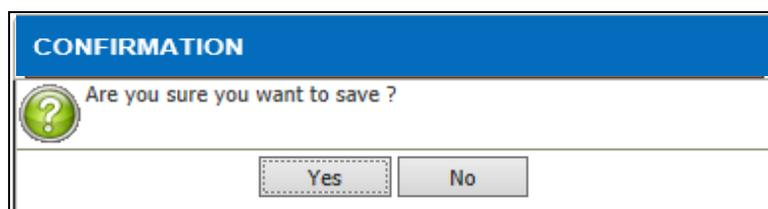

Figure 3.3-7 Save Record Alert Message
- After saving record, alert message will be displayed as per Figure 3.3-7 & Figure 3.3-8